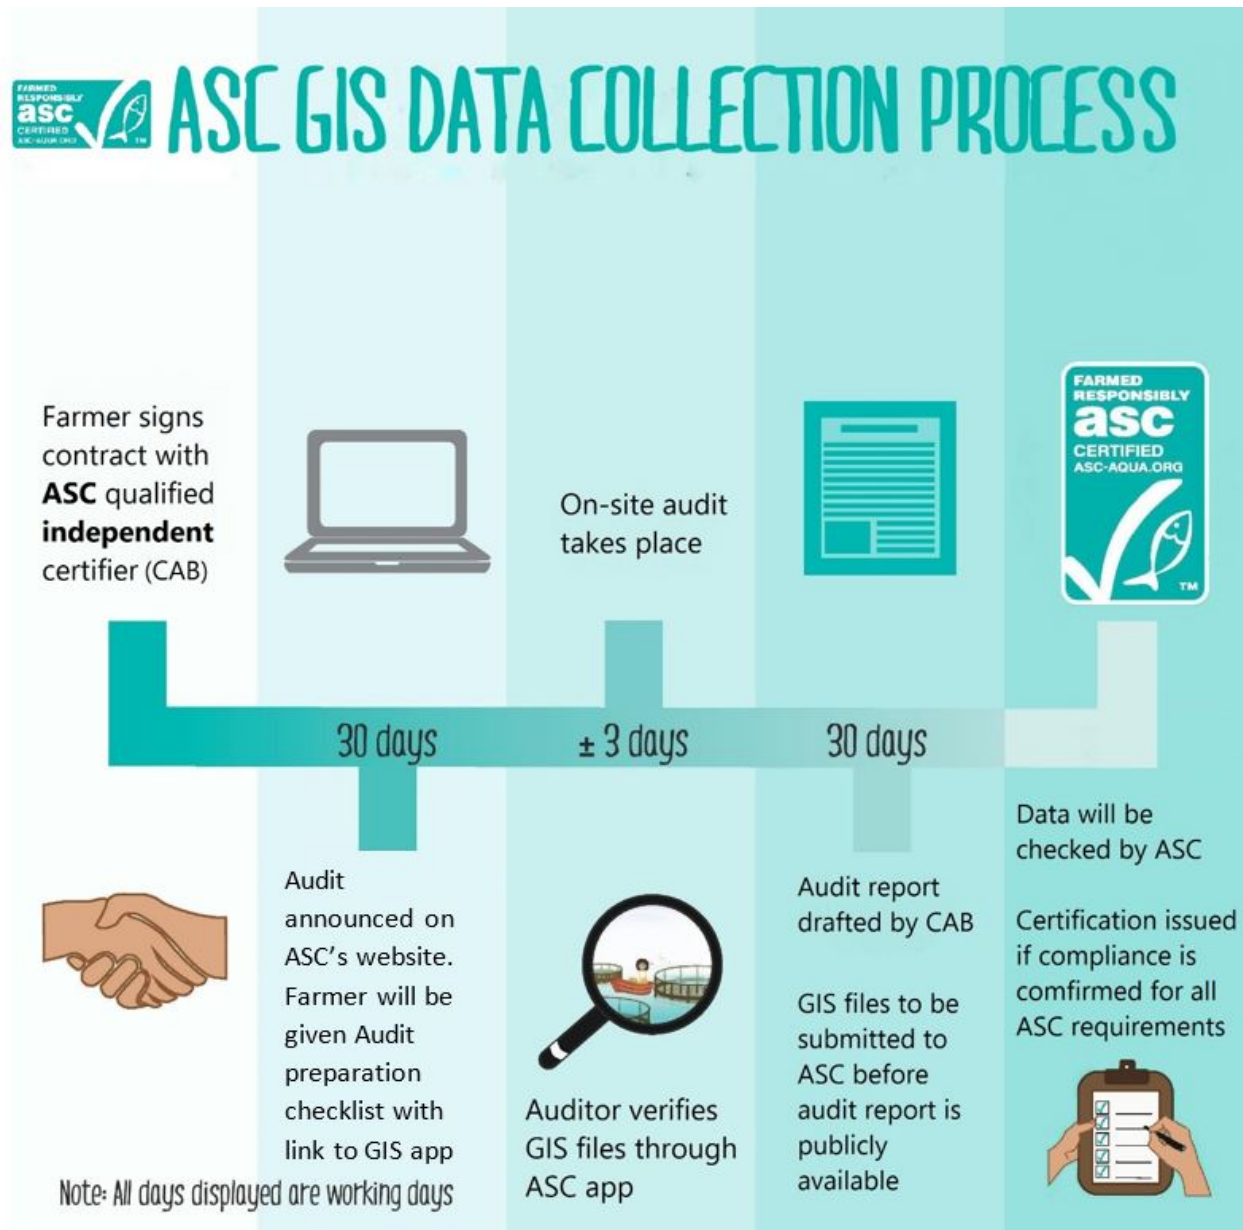

Figure 8 - Workflow collecting spatial data for AS
- ▶ After the auditor has verified the data during the on-site audit (see Figure 8), submit it through the GIS portal on our website together with voluntary data in case you captured it (See Chapter 3). **The submission will only succeed if the polygon has been captured according to the steps in this chapter. If not, an error will appear.**